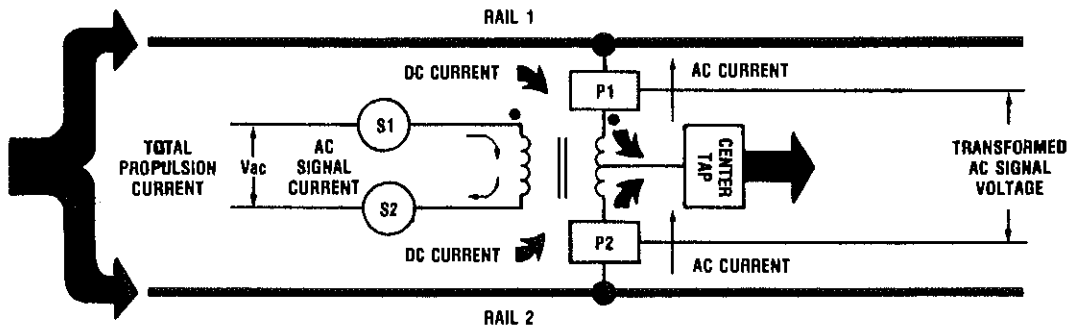

Figure 3-2A
1. Enters from both rails and exits at the center-tap, see Figure 3-2A.